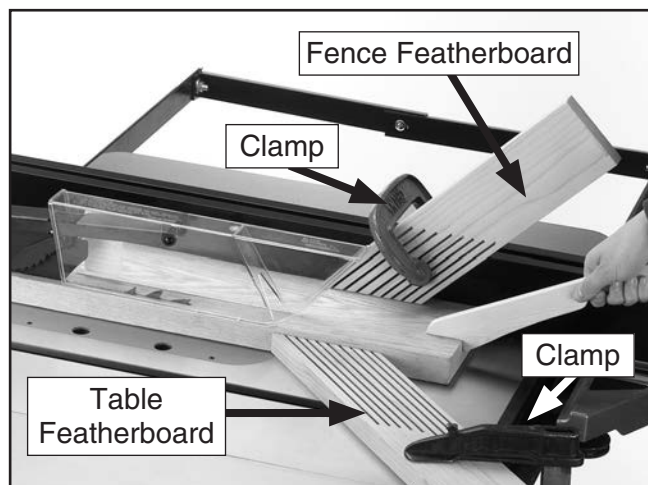

Figure 75. Example of featherboards secured with clamps.
3. Place a featherboard on the table away from the blade so all fingers point forward and contact the workpiece (see **Figure 75**).
6. Mount a second featherboard to the fence with another clamp (see **Figure 75**), then repeat **Step 5** to ensure it is secure.